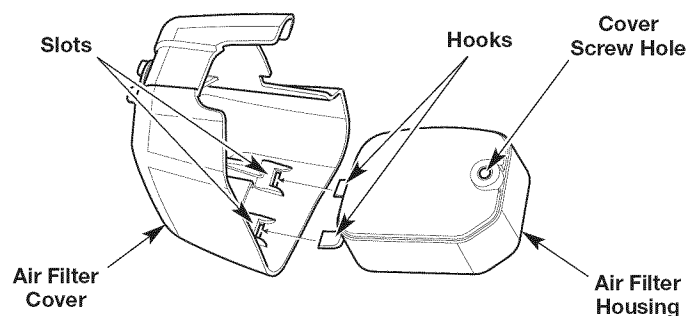

Fig. 22
6. Reinstall the air filter inside the air filter housing (Fig. 22).
7. Insert the hooks on the air filter housing into the slots on the air filter cover (Fig. 22).
8. Swing the air filter cover to the right and align the cover screw with the cover screw hole (Fig. 22). Tighten the cover screw to secure the air filter cover.